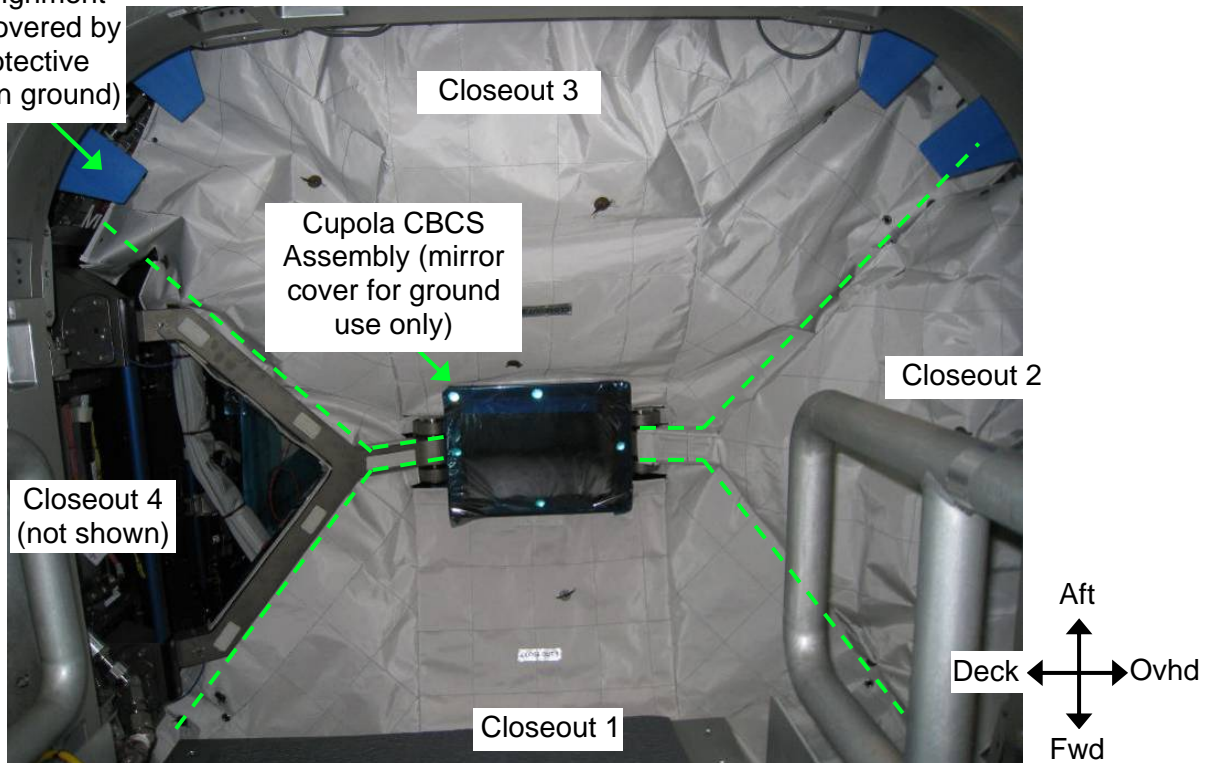

Figure 3.- Cupola Internal MLI (Closeout 4 Not Installed).
Refer to Figures 3, 4, 5.
- Refer to Figures 3, 4, 5.